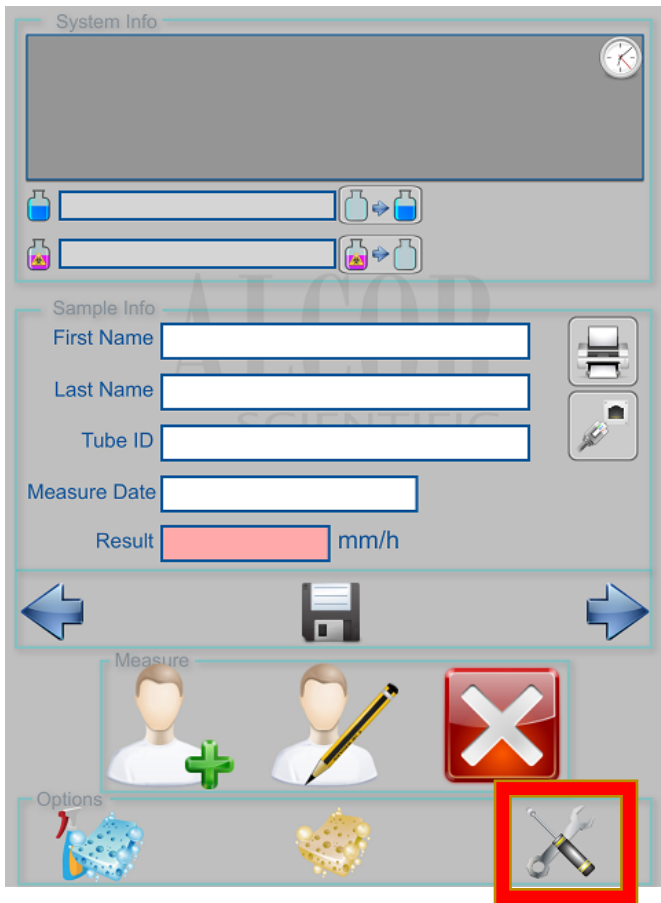

Figure 18
17. Power on the iSED®. On the Main measurement screen, press the “Tools” icon. (Figure 18)